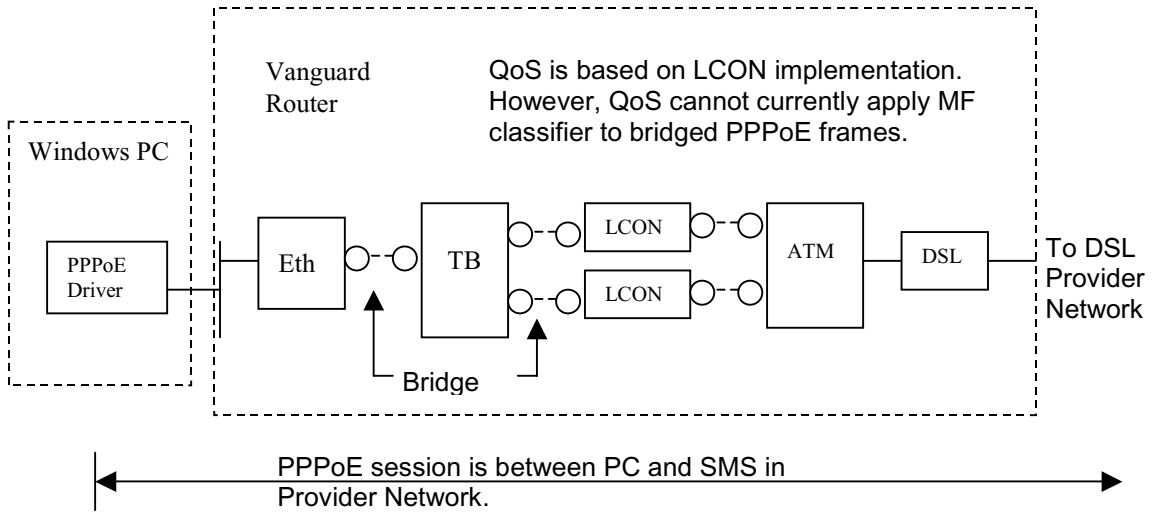

Figure 9. PPPoE Bridging Configuration
Figure 9 below illustrates a PPPoE Bridging configuration. In this example two (2) ATM Virtual Connections over the DSL modem are defined.